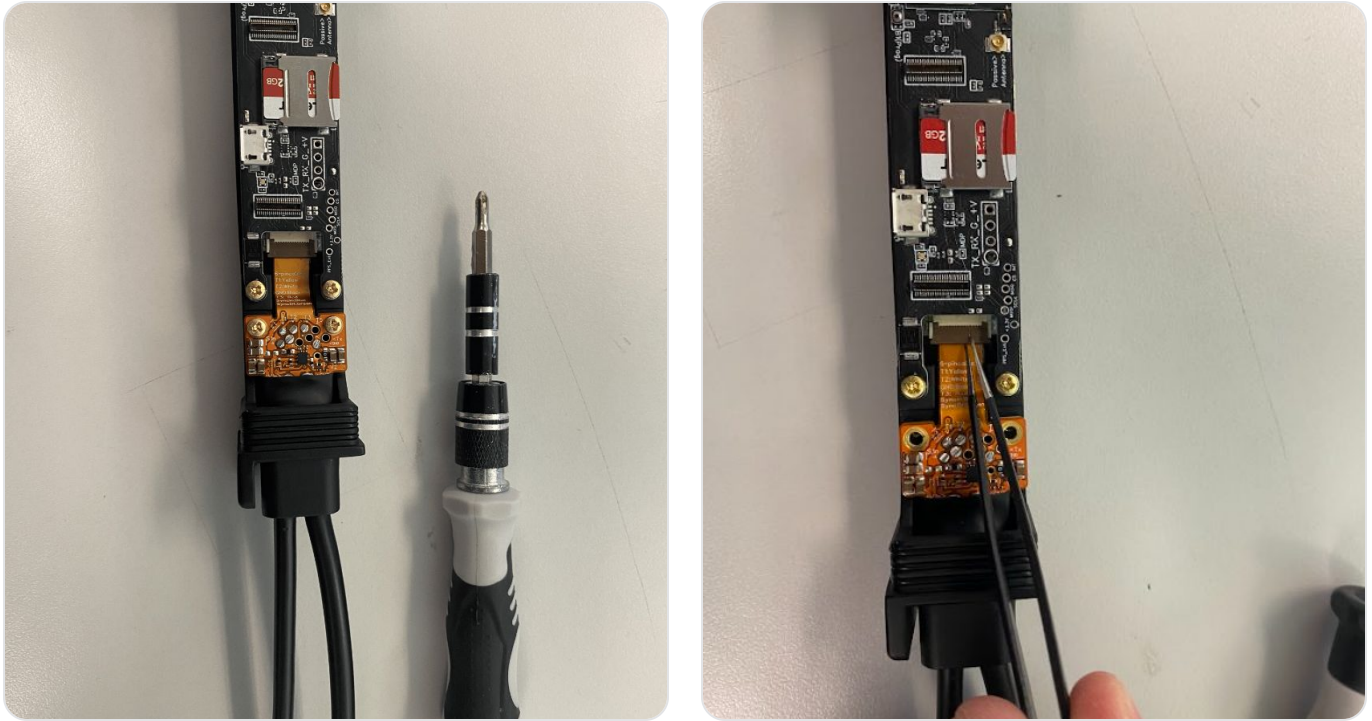

Figure 22. Left: Magpie with the case removed; the screws to remove are highlighted. Right: the hinged flex-cable connector to disconnect, shown with tweezers.
2. Remove the two M2-0.4×6 mm screws nearest the connector cables (highlighted in Figure 22, left).
3. Flip the hinged flex-cable connector upward and disconnect the flex cable (Figure 22, right).